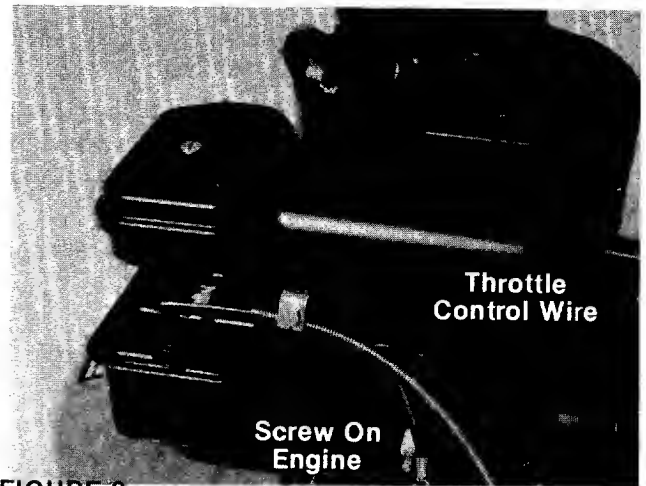

FIGURE 9.
1. Loosen, but do not remove, screw securing throttle control wire assembly at engine. See figure 9.